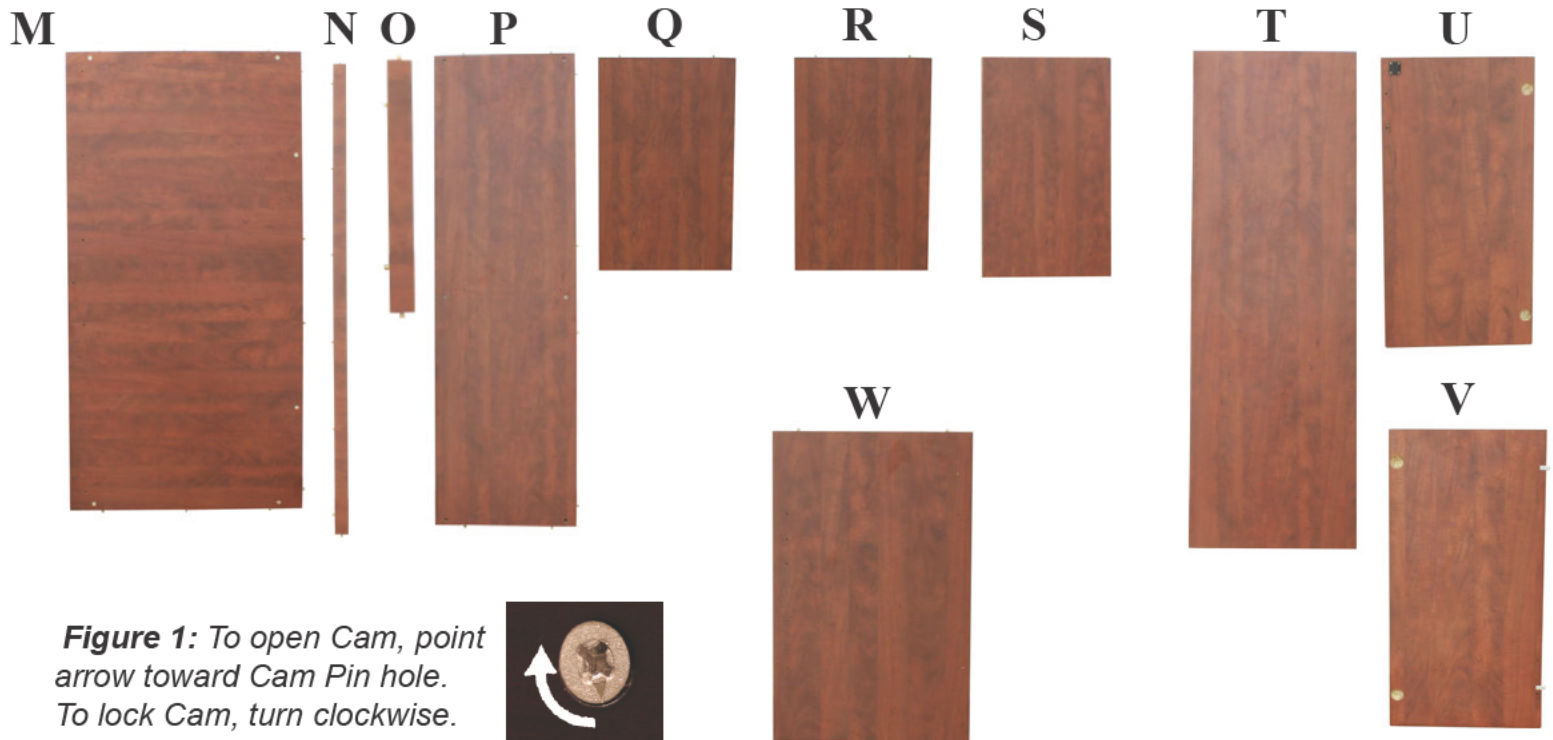

Figure 1: To open Cam, point arrow toward Cam Pin hole.
STEP 3 : Insert 2 cam pins(F) into back(M) and connect(M) to bottom(P) by inserting and locking cams (Fig1).
STEP 4 : Insert 4 cam pins(F) into both left(Q) and right(R) side.
STEP 5 : Attach left(Q) and right(R) side to back(M) and bottom(P) by inserting and locking cams located on (Fig1)
STEP 7 : Place 2 cam pins(F) in bottom(P) and attach center wall(W) with banded edge facing out by inserting and locking cams (Fig1).
STEP 8a : Screw 8 cam pins(F) into top(T). Use 2 small screws(E) each to attach locking lips(D).
STEP 8b : Attach top by inserting and locking cams (Fig1).
STEP 9 : Attach 8 mounting brackets(A) to the pre drilled holes in the sides(Q,R) and center wall(W) with the open end facing out. Mount the inner hinges to(W) and outer hinges to(Q,R) by sliding the bolt on the underside of the hinges into the open end of the mount while sliding the screw on the mount into the open end of the hinge. Tighten the screw on the back to lock into place.